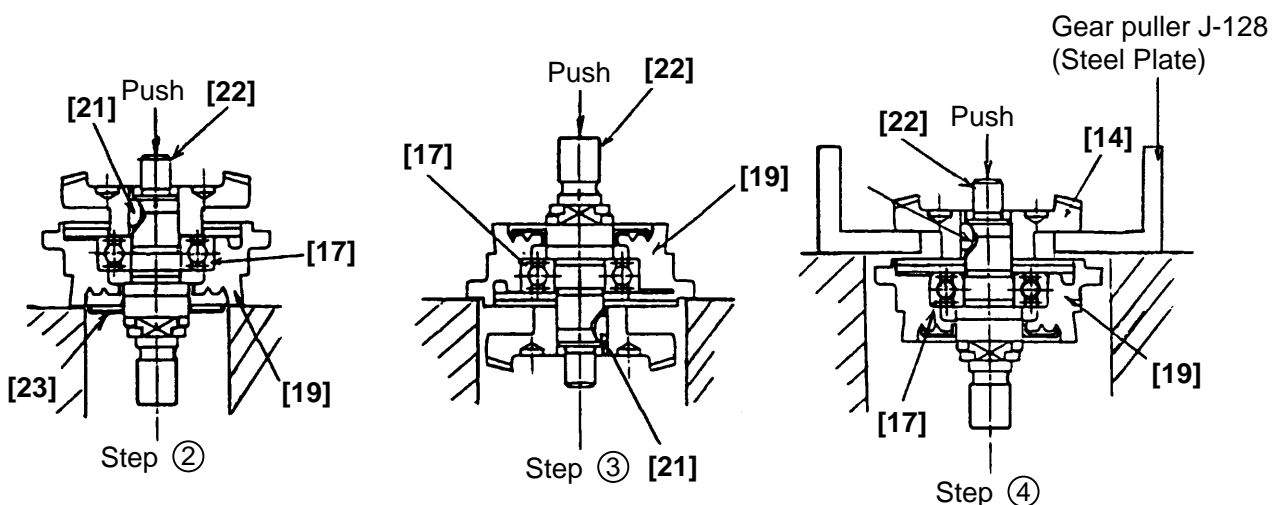

Fig. 3
#### (3) Disassembly of the gear (Fig. 3)
- ① Loosen the M4 x 12 Seal Lock Screw [20] fixing the Packing Gland [19], and remove the Packing Gland [19] from the Gear Cover Ass'y [3].
- ② Support the bottom of the Packing Gland [19] with a jig, and push down on the upper portion of the Spindle [22] with a hand press until the end surface of the Woodruff Key [21] contacts the Ball Bearing [17] and the Spindle [22] cannot be pushed down any more. Be careful not to deform the Fringer [23].
- ③ Turn the Packing Gland [19] upside down and fix it, then push down the Spindle [22].
- ④ Insert the gear puller J-128 (use of a steel plate is permitted as a substitute) between the Gear [14] and the Packing Gland [19], and push down the Spindle [22] with a hand press to remove it.